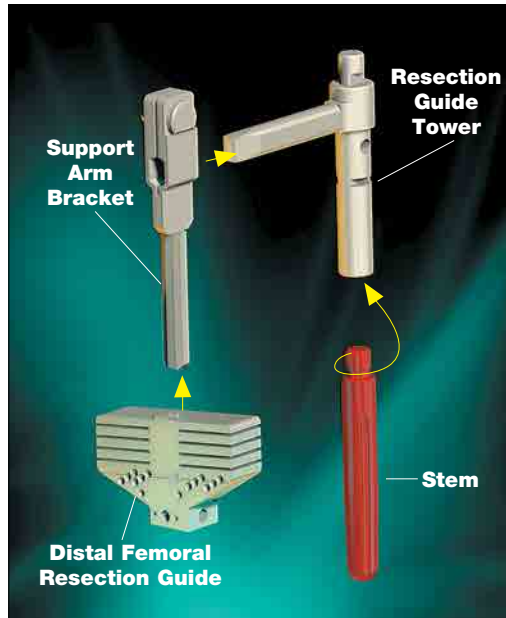

Figure 11
- Assemble bracket assembly to resection guide tower assembly (**Figure 11**)